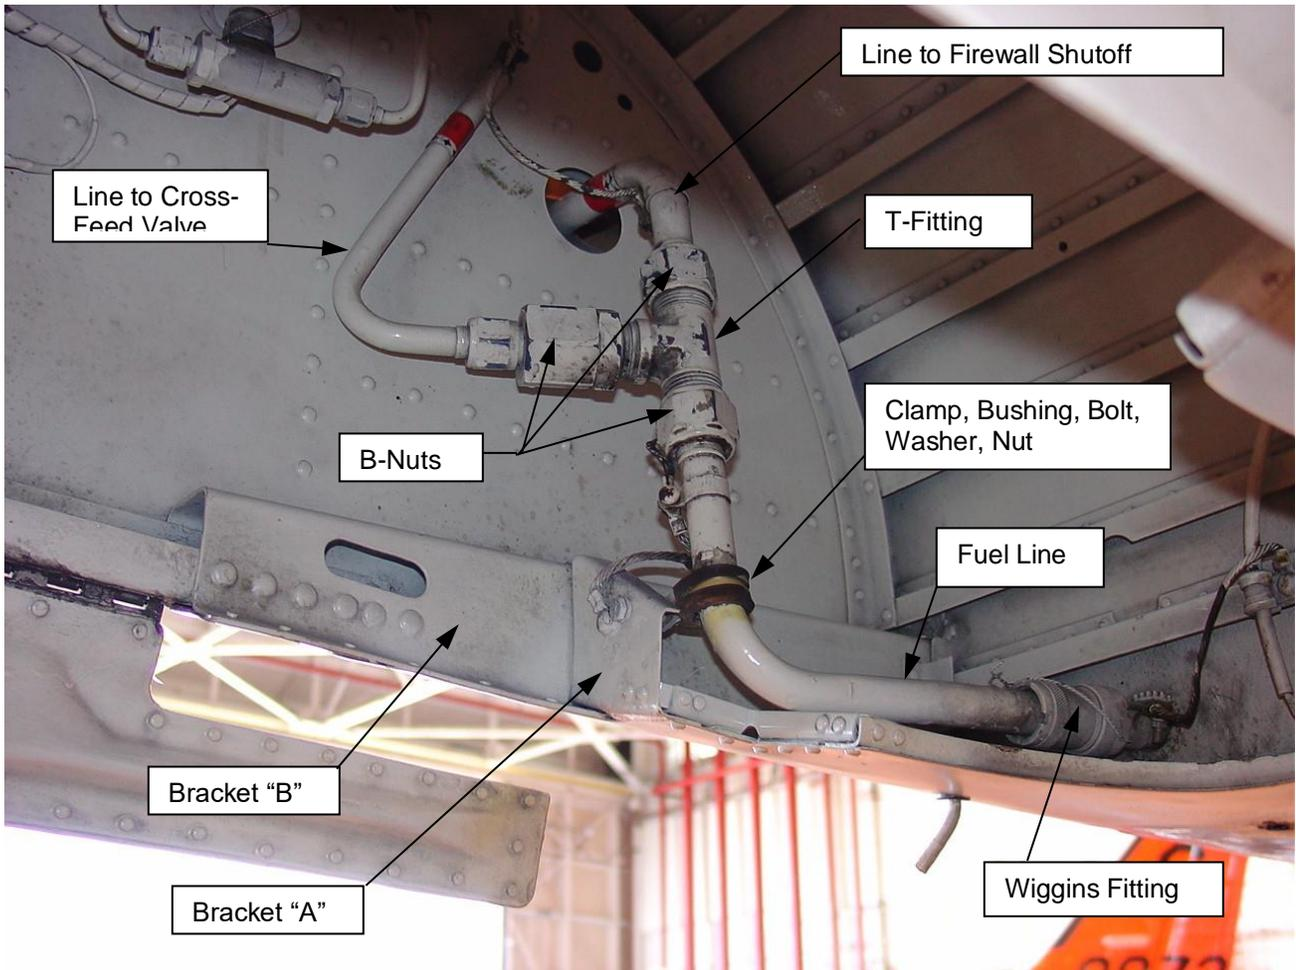

Figure 3 Securing the Fuel Line
9.2. REPOSITIONING THE FUEL LINE (REFER TO FIGURE 3)